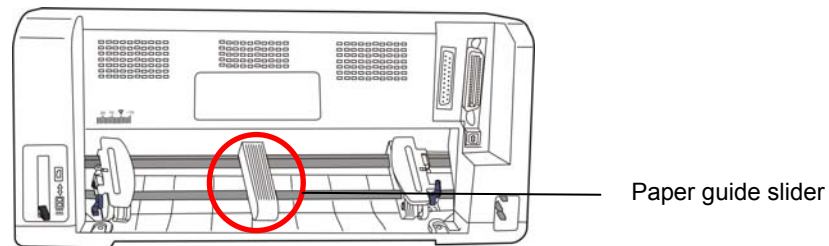

Figure 3-10 Adjusting the paper guide slider
5. Move the paper guide slider to the middle of the tractor. (As Figure 3-10 shown)